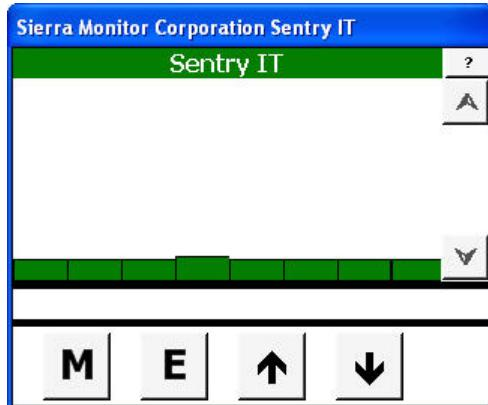

Figure 5-82 Normal Display
- **Green** – normal (See Figure 5-82 Normal Display).